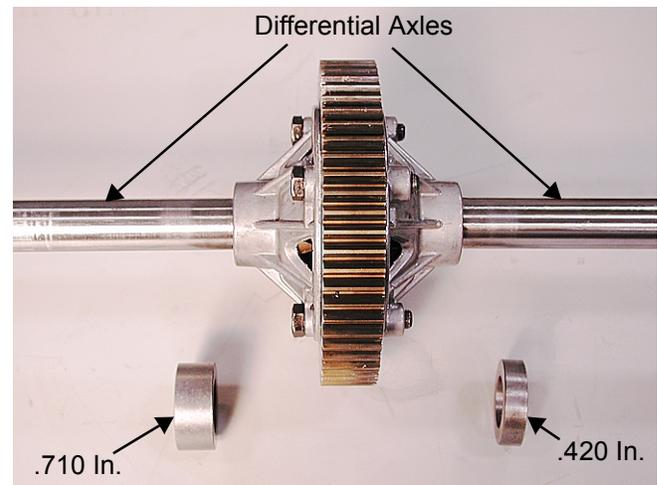

Figure 20
24. Remove the spacers from the differential axles. See Figure 20.